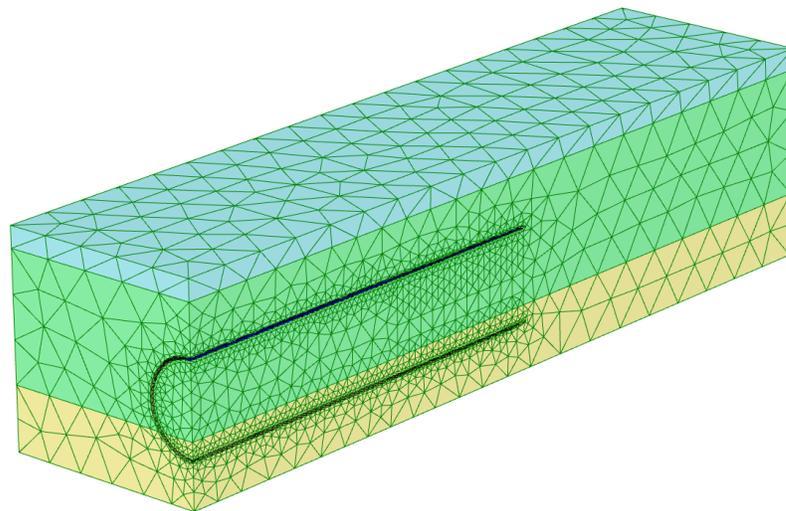

Figure 87: The generated mesh
2.  Click the **View mesh** button to inspect the generated mesh(Figure 87 (on page 114)).